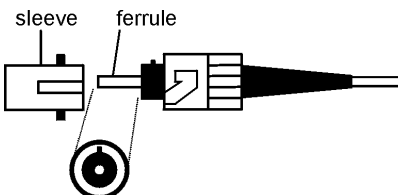

Figure 2: Connector Cleaning (connector type can vary)
1. Blow the sleeve with filtered compressed air (Figure 2).